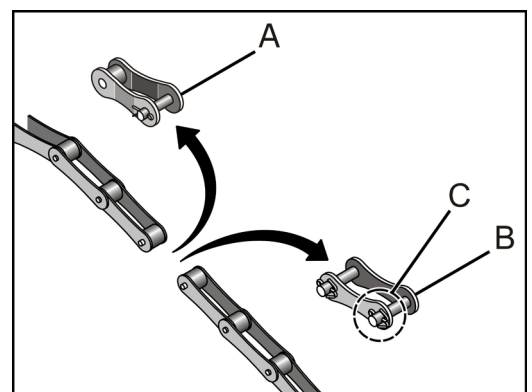

fig. 12
The drive chains are pre-adjusted according to the distance between the shafts of the sprockets. If some maintenance was needed or in case splices (B) (fig. 12) or reductions (A) had to be repaired, remove the cotter pin (C), and remove the number of splices, reductions or loose links.